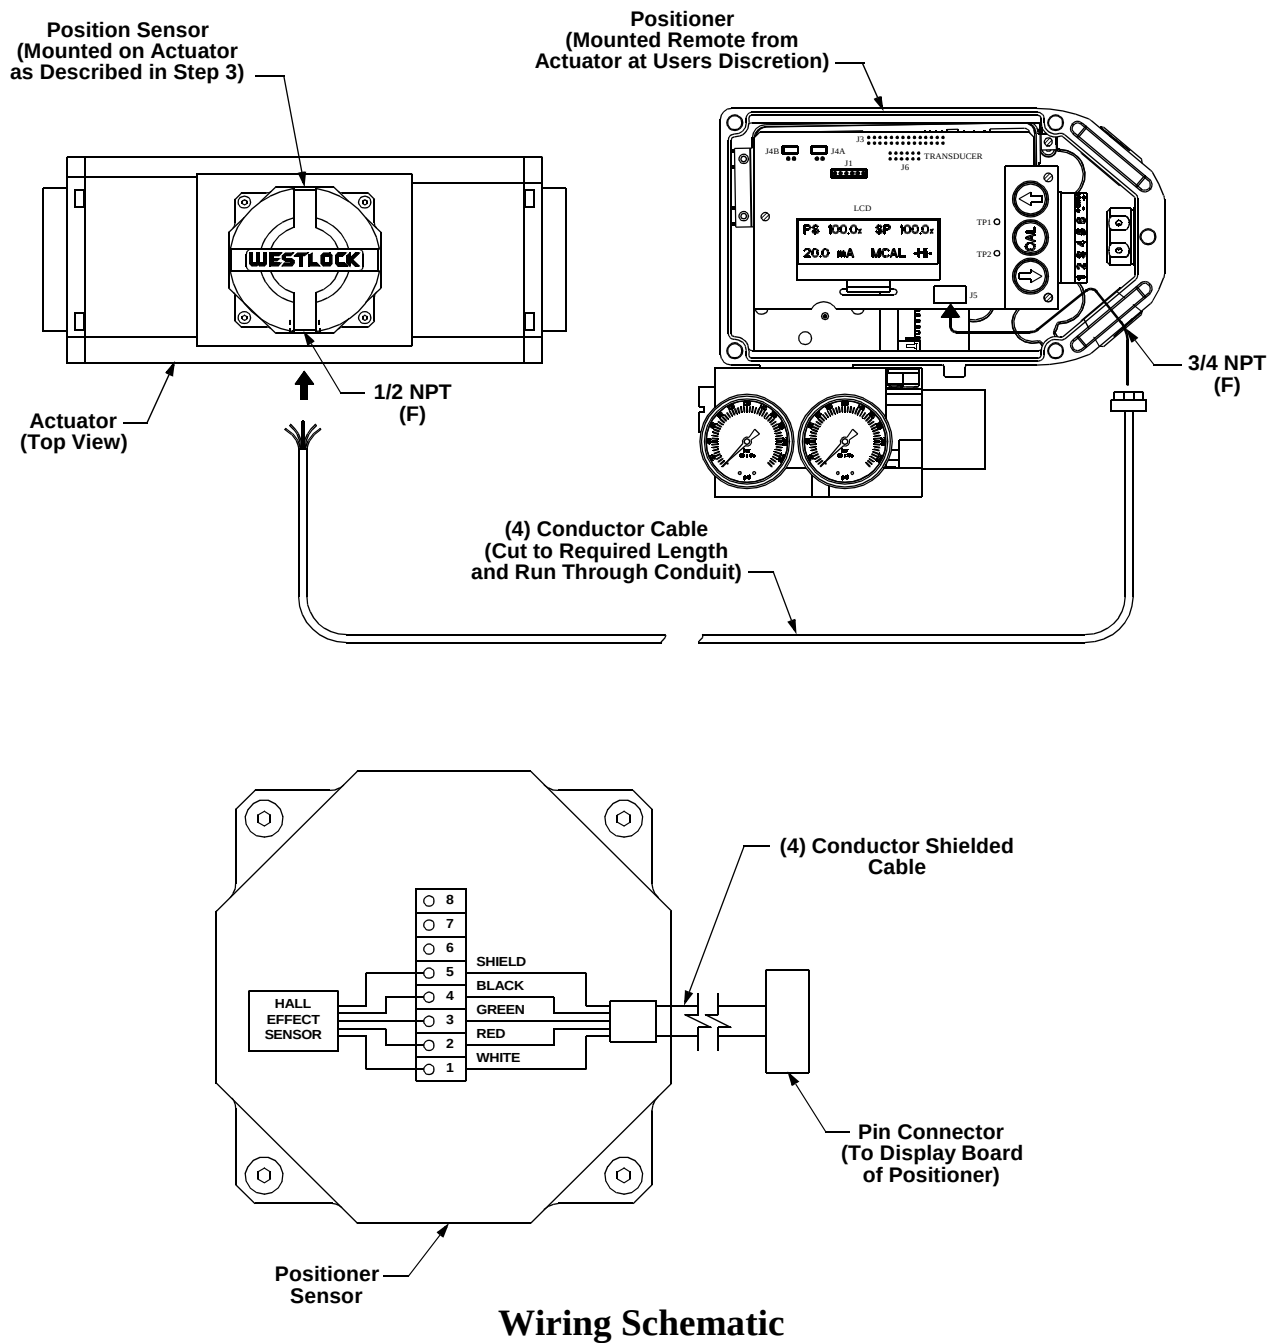

Figure 3-4
Step 4. Mount positioner at a remote location, wire the positioner sensor back to the positioner using the cable provided (See Figure 3-4).